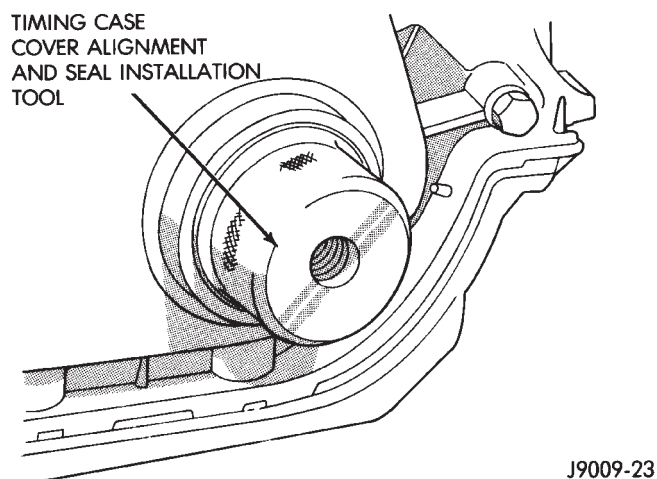

Fig. 13 Timing Case Cover Alignment and Seal Installation Tool 6139 (J-22248)
(11) Position the timing case cover on the oil pan gasket and the cylinder block.
(12) Place Timing Case Cover Alignment and Seal Installation Tool 6139 (J-22248) in the crankshaft opening in the cover (Fig. 13).